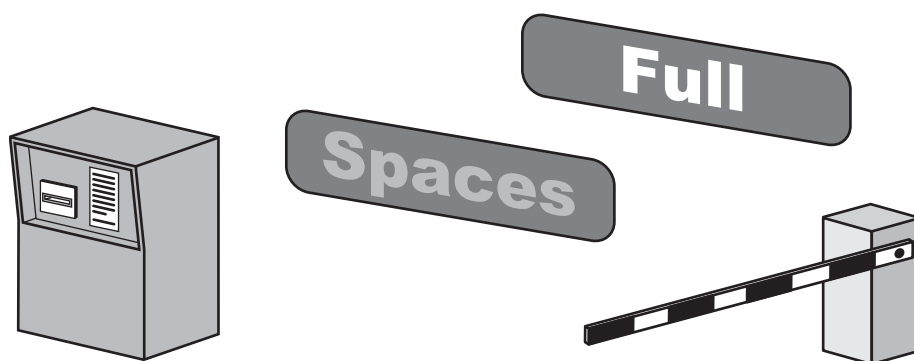

Figure Q9(a)
9. A microcontroller controls a car-park barrier and associated display system. The system consists of a ticket-dispenser machine, an exit-ticket machine, two barriers, a car-park “full” sign and a “spaces” sign, as shown in Figure Q9(a).